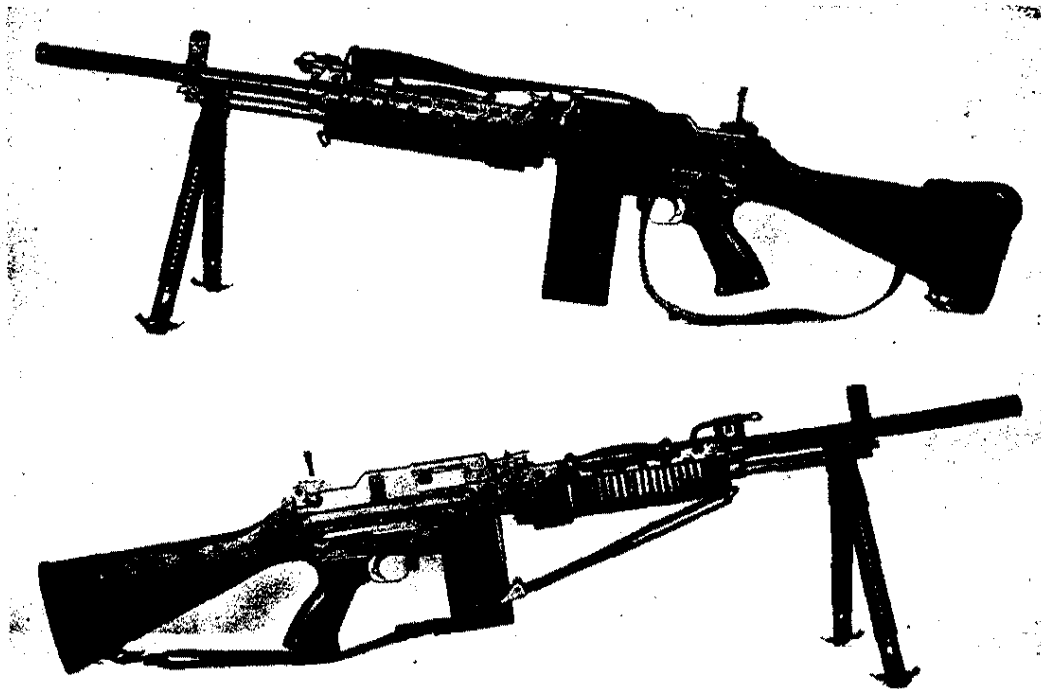

FIGURE 1. STONER LIGHT MACHINEGUN, BELT-FED LEFT AND RIGHT VIEW
a. The Stoner light machinegun (belt-fed) is a 5.56mm automatic weapon (figure 1). The ammunition is fed into the weapon by means of a disintegrating metallic link belt. The weapon fires from the open-bolt position and features a quick-change barrel. The operational energy is provided by the gas from the fired round.